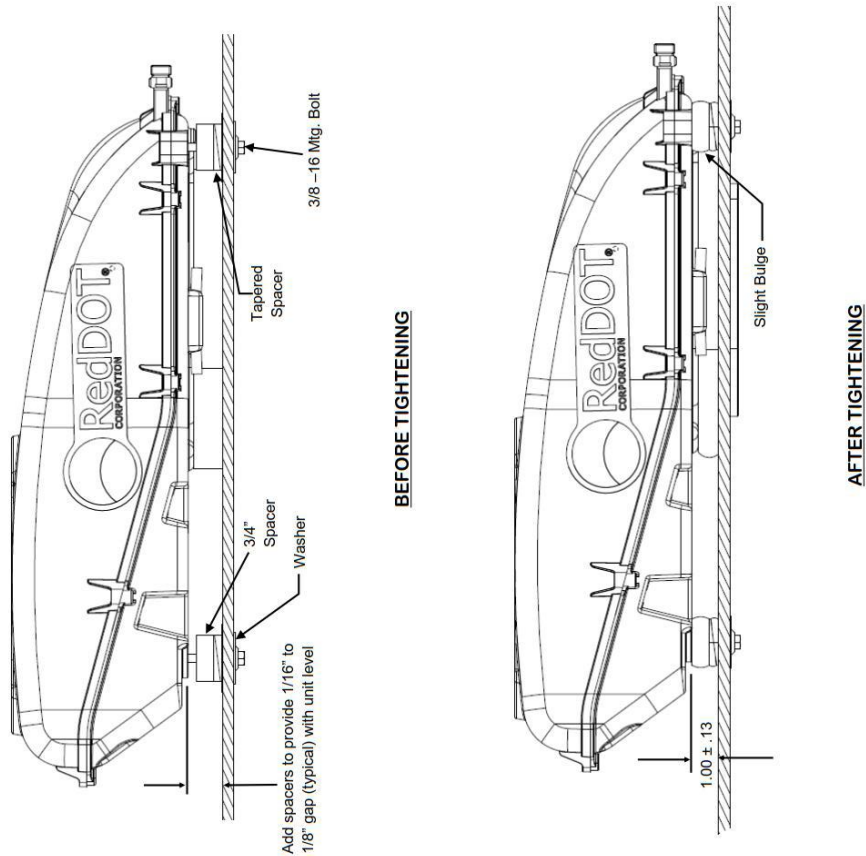

Figure 2
10. Select spacers as required to level and support unit. See Figure 2.